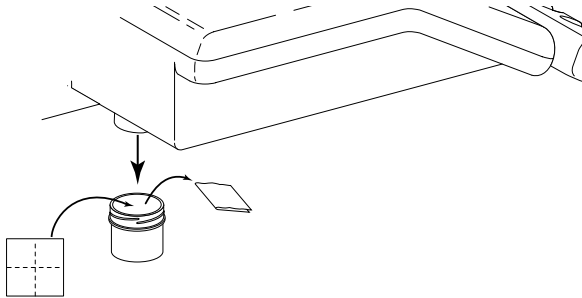

Figure 10. Oil Collector
1. Remove the oil collector jar from the unit and discard the old gauze (*see Figure 10*).